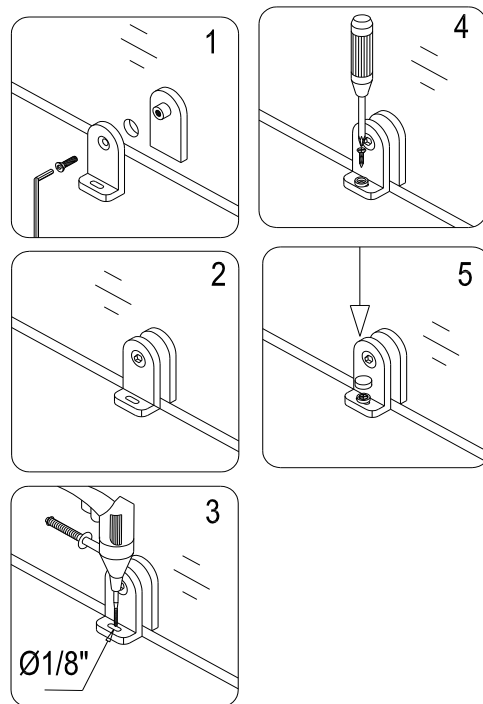
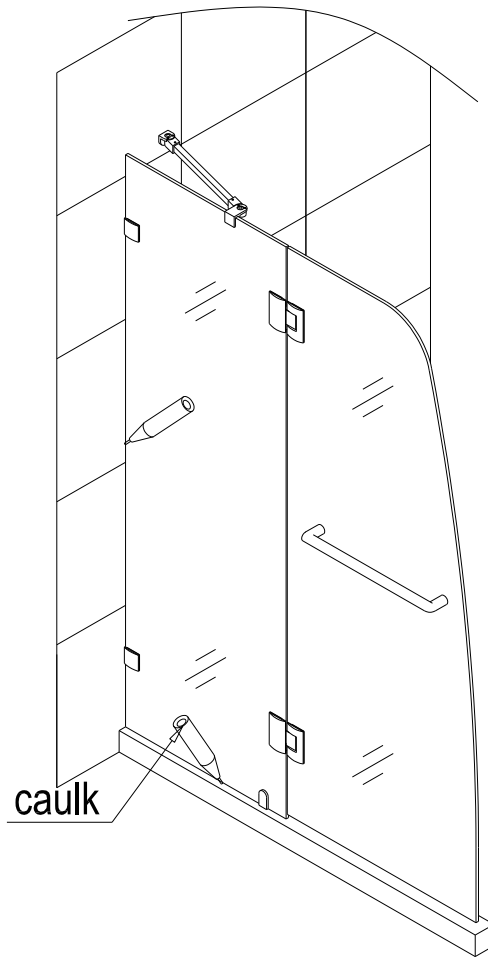

fig. 8
fig. 9
9. Attach the **Bottom bracket (13)** on the stationary glass and mark a hole in the threshold or tray through the slotted hole of the **Bracket**. Remove the **Bracket**, insert **Anchor (07)**. Then reinstall the **Bracket** and screw it onto the threshold or tray with the **Round head screw ST4.2x25 (11)** and cover it with the **Decorative cover (12)**. See fig. 8 for details.
**NOTE: The Bottom bracket (13) is only applicable for 72" shower door installation (to the threshold or the shower tray). If your unit is being installed to the bathtub, then you do not need this bracket.**
10. Seal with caulk along the bottom of the stationary glass and between the wall and the wall bracket. See fig. 9 for details.